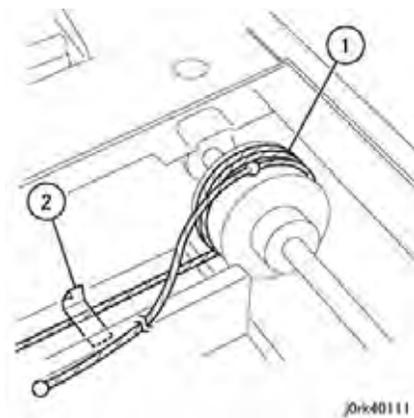

Figure 7 Winding Carriage Cable
2. Wind the Carriage Cable at the spring end around the pulley for 2.5 rounds (Figure 7)